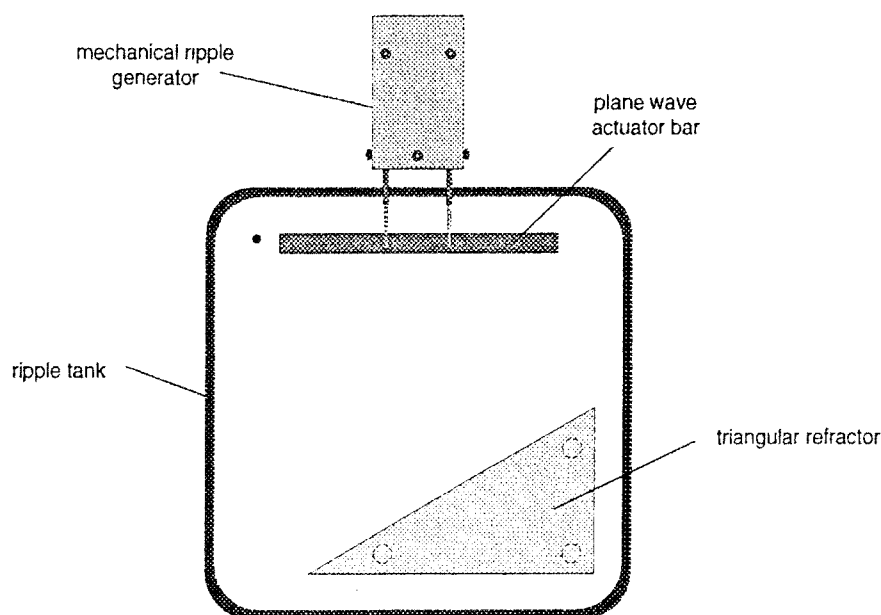

Figure 2.2: Position of Triangular Refractor
- ① Place the triangular refractor in the water at an angle to the incoming plane waves. See Figure 2.2. To simulate two different mediums, the depth of the water must change. Raise the triangular refractor by placing an equal number of coins under each corner of the triangle. Adjust the height in this manner so the depth of the water on top of the triangle is only 2 to 3 mm.
- ② On the paper below the tank, place the metric rule parallel to the plane waves that are incoming to the refractor. Make a line to show the incoming wave front.
- ③ Align the rule with the refracted wave over the triangle and make a line to show the refracted wave.
- ④ Trace the position of the edge of the triangular refractor that the wave hits.
- ⑤ Turn off the light source and ripple generator.
- ⑥ Draw a line that is perpendicular to the incoming wave front. Extend it to the edge of the triangular refractor. This represents the incoming ray so draw an arrow on it pointing toward the triangle.
- ⑦ Draw a line from the point where the incoming ray strikes the triangle so it crosses the refracted wave front at a right angle. This represents the refracted ray so draw an arrow on it showing which way the wave is traveling.
- ⑧ Draw the normal (perpendicular) line at the point of refraction on the triangle.
- ⑨ When the wave goes from the deep water to the shallow water in the triangle area, does the wave bend toward or away from the normal?
- ⑩ When the wave goes from the deep water to the shallow water in the triangle area, does the wave speed up or slow down?